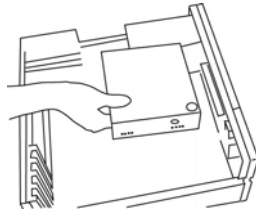

Figure 2
2.1) Remove the 5.25" CD-ROM and 3.5" FDD & HDD brackets. (See Figure 2,3)